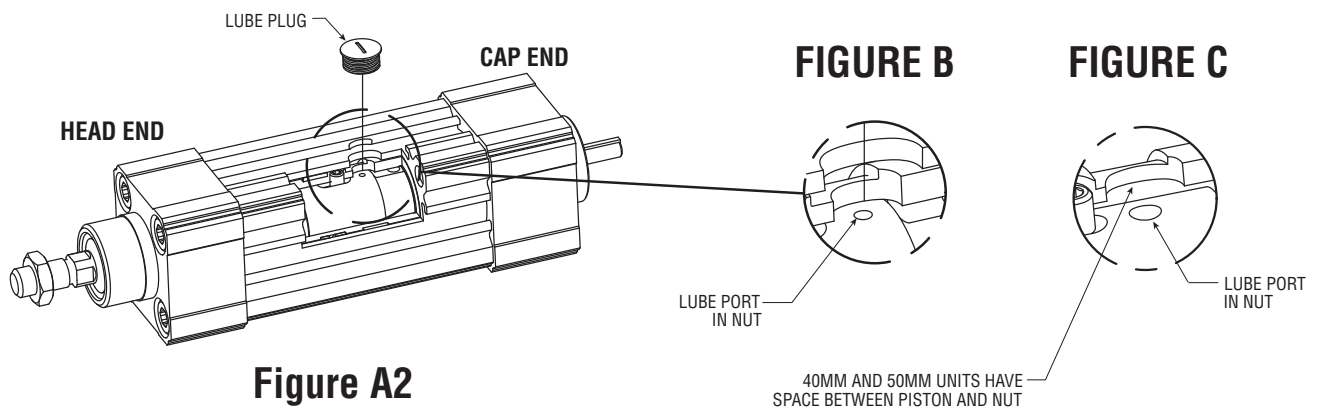

Figure A2
2. ROTATING (ECVR) UNITS: Fully retract the cylinder and rotate the rod clockwise until the LUBE PORT in piston is accessible. (FIGURE A2) This step may require disengagement of the motor brake or attached load.
3. Using grease gun, pump the recommended grease into LUBE PORT in the PISTON (Figure A2). Be sure to lubricate the indicated LUBE PORT in the PISTON.